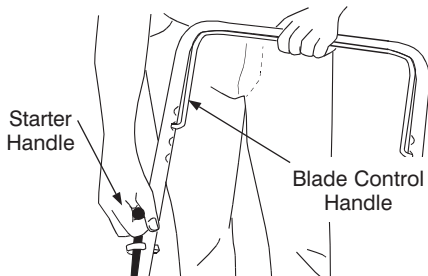

Figure 3
- Standing behind the unit, depress the blade control handle and hold it against the upper handle as shown in Figure 3.